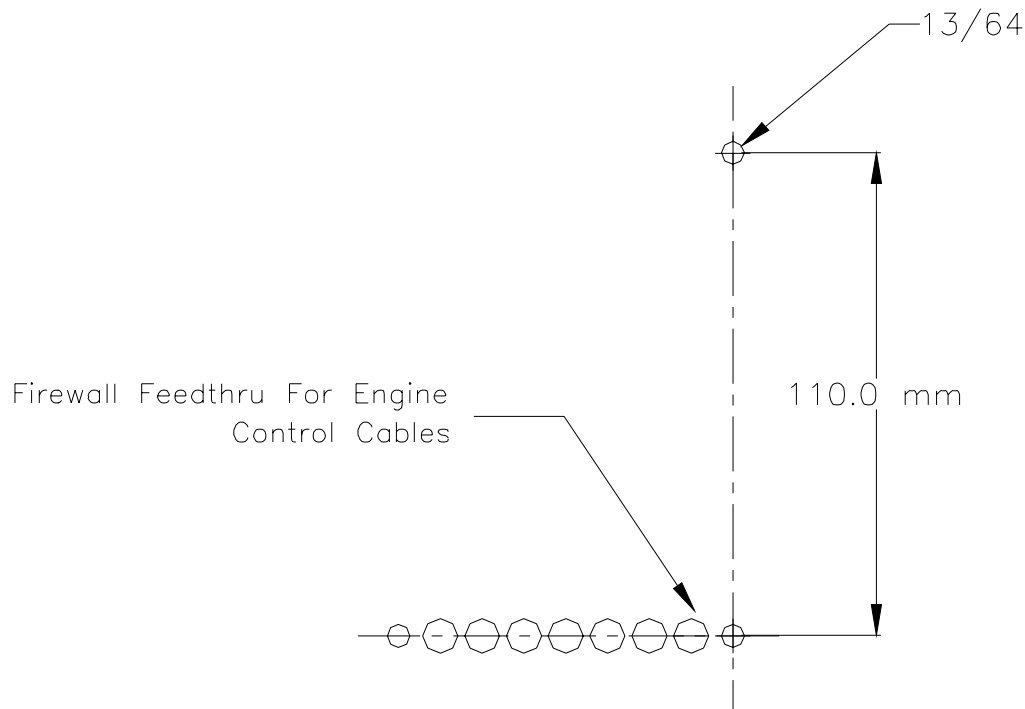

Figure 1.
- 10.8 Drill a 13/64 hole in the fire wall in the location shown in figure 1.